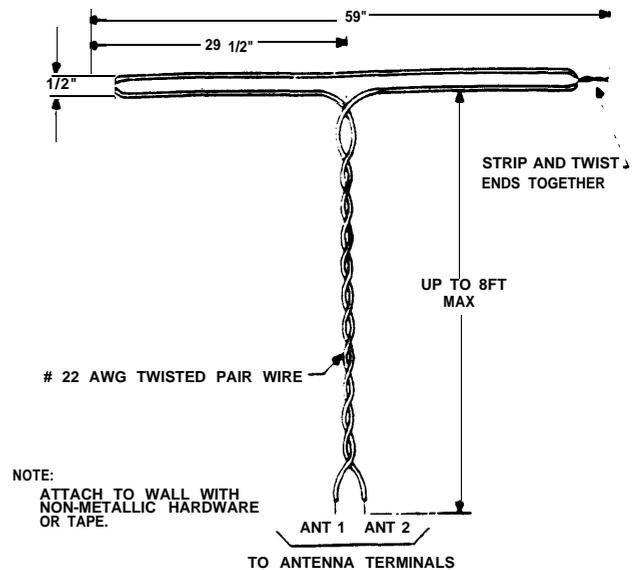

Fig. 13—Suggested Indoor FM Antenna
- (1) Turn the **POWER** switch to **OFF**.
- (2) If an outdoor antenna is available, connect it across terminals **ANT1** and **ANT2** of terminal block TB101 (Fig. 7). Otherwise provide the indoor antenna arrangement shown in Fig. 13. Some locations may require a more extensive antenna system.